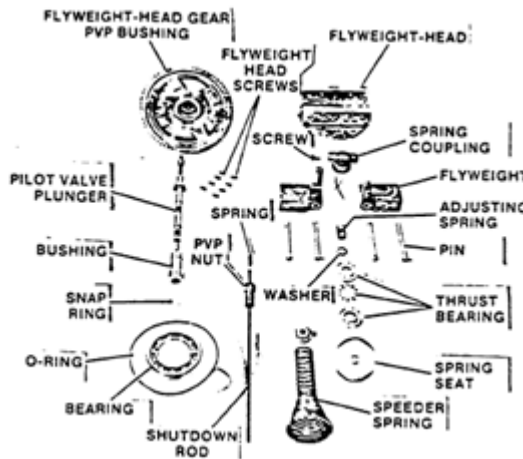

Figure 5-21. Ballhead Assembly
27. Ballhead disassembly (Figure 5-21).